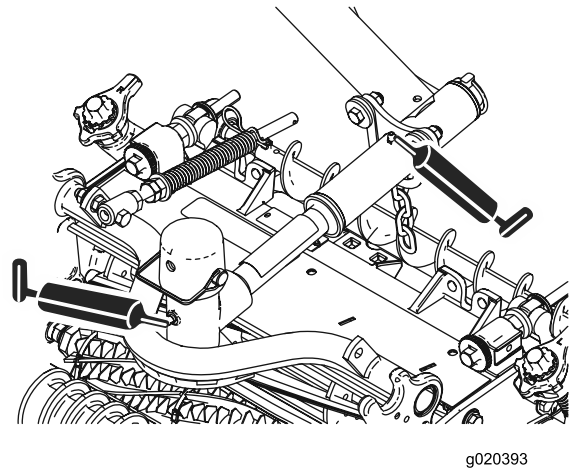

Figure 45
- Cutting unit pivots (2 each) (Figure 45)